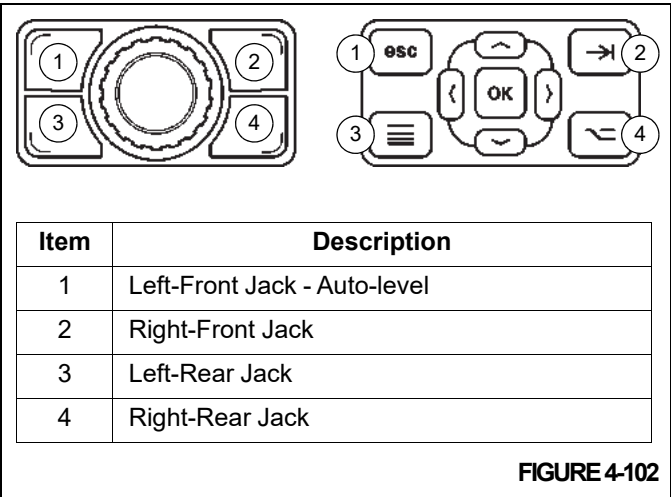

FIGURE 4-102
- 4. To begin the auto-level function, position the Outrigger Extend/Retract Switch (17, Figure 3-9) on the left armrest to the extend or retract position, then press and hold the button (1, Figure 4-102) at the Jog Dial or Navigation Control Pad that corresponds to the Auto-level Button on the screen.
- 5. Release the Outrigger Extend/Retract Switch and the button (1, Figure 4-102) at the Jog Dial or Navigation Control Pad.